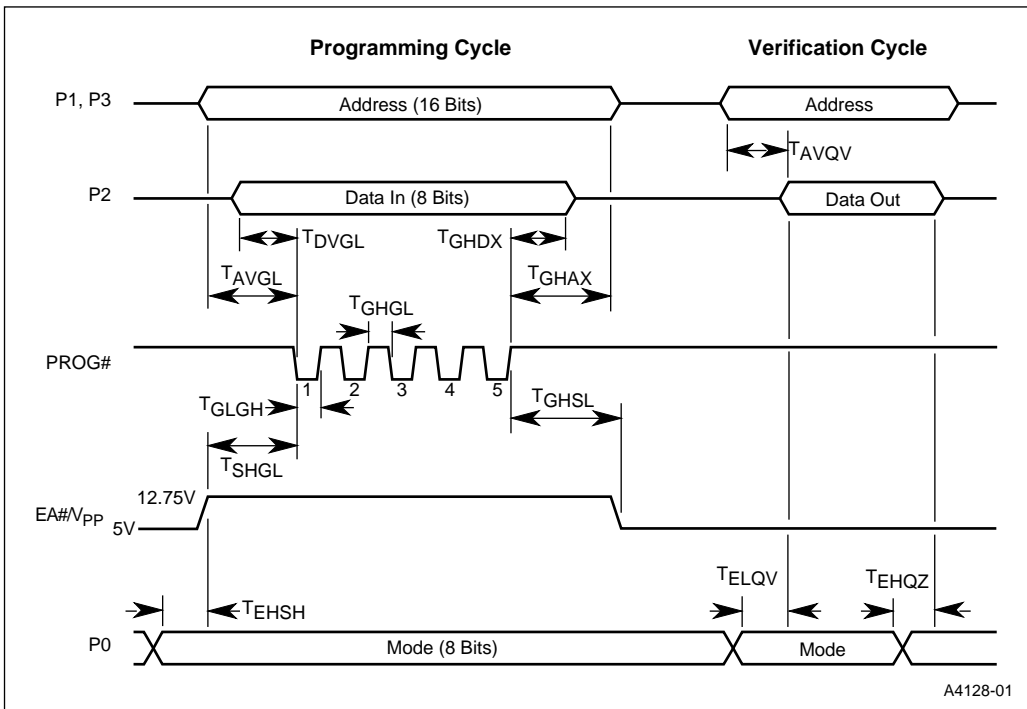

Figure 13-5. OTPROM Timing
3. Wait for the data on port P2 to become valid ($T_{AVQV} = 48$ clock cycles, Figure 13-5), then compare the data with the expected value.